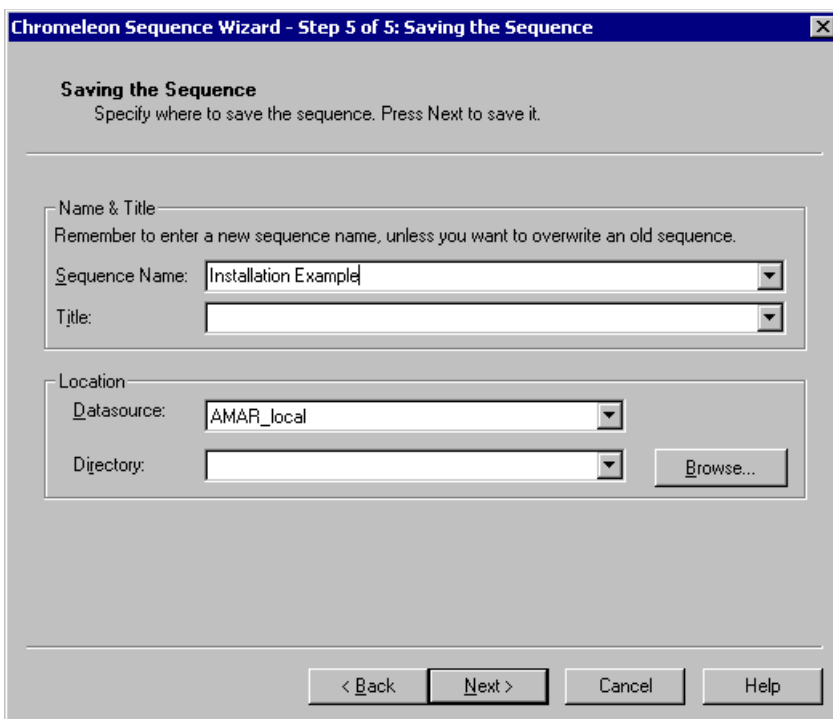

Figure 54. Example: Sequence Wizard Step 5
17. Enter a name for the sequence and a location (see the example in Figure 54).